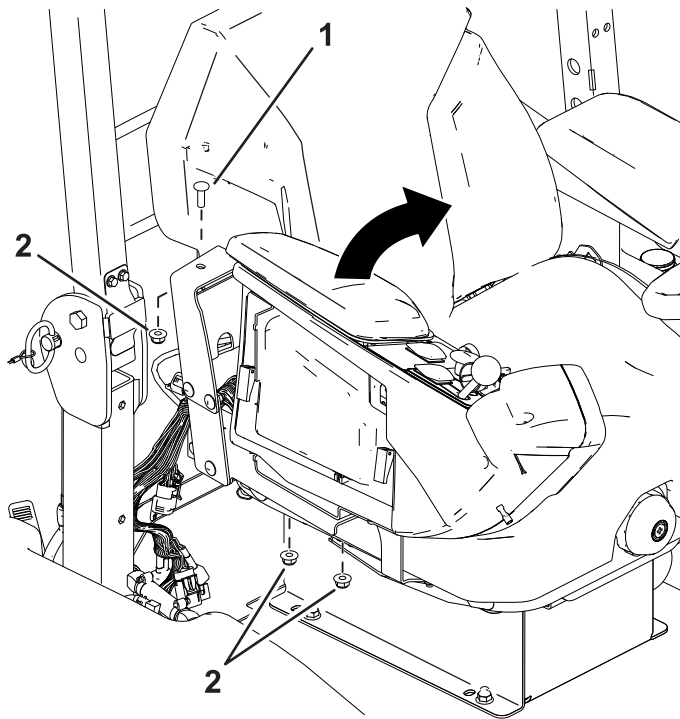

Figure 5
7. Remove the nuts and bolts from the right armrest and fold it to the center (**Figure 5**).